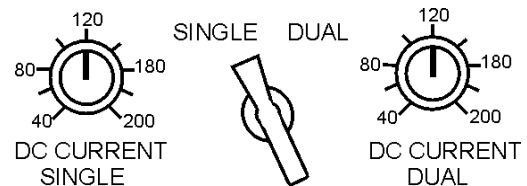

Figure 19. Current Range Selector Switch
6. Set the "Current Range Selector" switch (Figure 19) to 'Single' for one operator or 'Dual' for two operators.